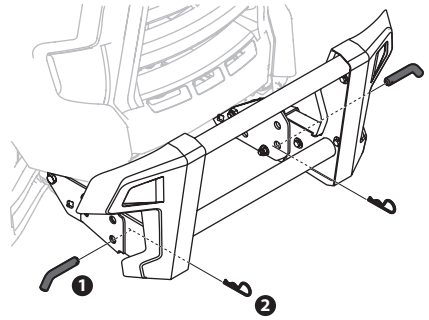

Figure 17
2. Install the pins on the right and left side of brush guard and then secure with two cotter pins found in the hardware pack. See Figure 17.